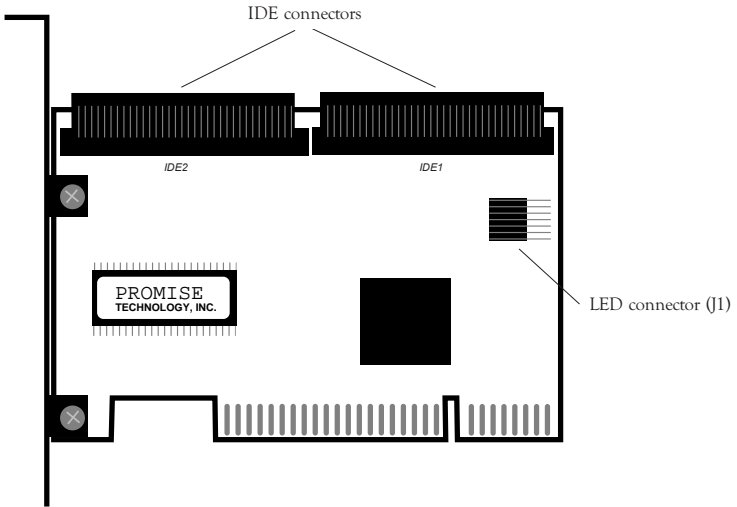

Figure 1-1: Ultra66 controller card
- ❹ Attach your system case's 2- or 4-pin LED cable to the LED connector on the Ultra66 controller card (see Figure 1-1). Make sure that pin 1 on the connector is aligned with pin 1 of the cable.
- ❶ Configure the jumpers of the hard drives you're preparing to install with Ultra66 with the proper master/slave settings. You may need to refer to your hard drive's manual for more information.
- ❷ Install the hard drives in the proper hard drive bays of your system.
- ❸ Attach the IDE cable to the hard drives and to the IDE connectors on the Ultra66 controller card (unless you're installing Ultra66 on a system with Windows NT already installed; see "Hard Drive Installation," above, for more information). The colored edge of the cable(s) indicates pin 1 (see Figure 1.1), and the blue cable connector must be attached to the Ultra66 connector.
- ❹ If two drives are connected via the same cable, make